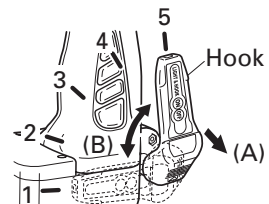

Fig. 5
(1) Operating the hook
- (a) Pull out the hook toward you in the direction of arrow (A) and turn in the direction of arrow (B). (Fig. 5)